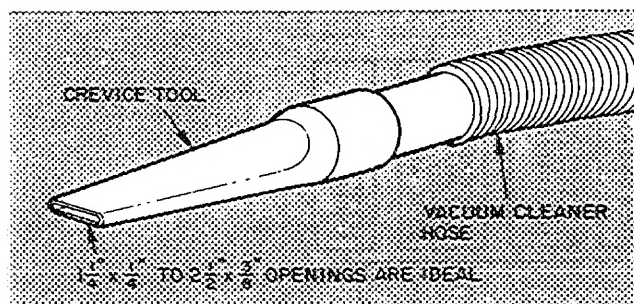

Fig. 16 — Crevice Cleaning Tool
- Clean coil using vacuum cleaner and its crevice tool (see Fig. 16). Work crevice tool perpendicularly to coil tubes, making sure tool only touches dirt on fins. To prevent fin removal, do not "scrub" fins with tool or move tool parallel to coil tube configuration.